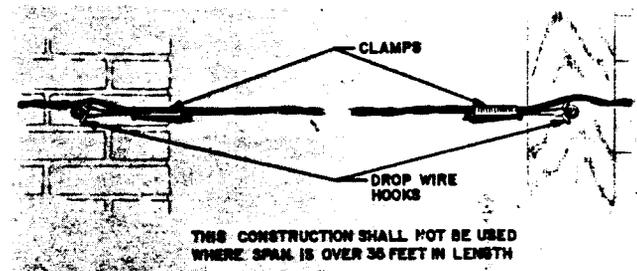

Fig. 12—Span Less Than 35 Feet in Length
9.04 Where only a few bridle wires will be run and the span is 35 feet or less in length, the construction shown in Fig. 12 may be employed.